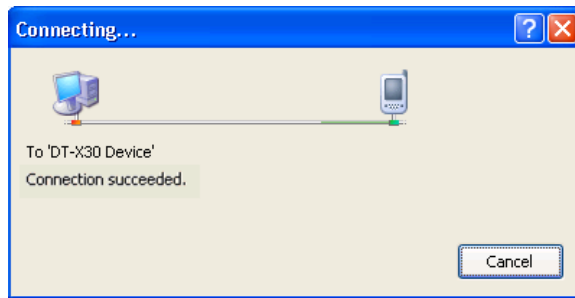

Figure 5.31
9. Choose **DT-X30 Device** in the list of **Devices:** and click **Connect** button. The screen in Figure 5.31 if appear indicates the success of connection establishment.